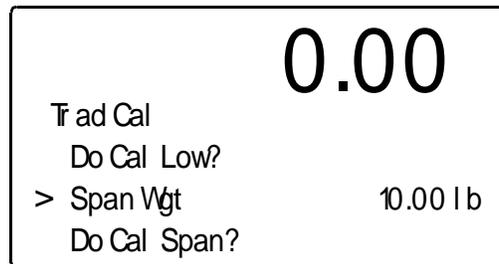

FIG. 2-10 TRADITIONAL CALIBRATION/ ENTERING SPAN WEIGHT
Step 16. Press the “-” button until the cursor is in front of Span Wgt. (See Fig. 2-10) To Set the Span Value: